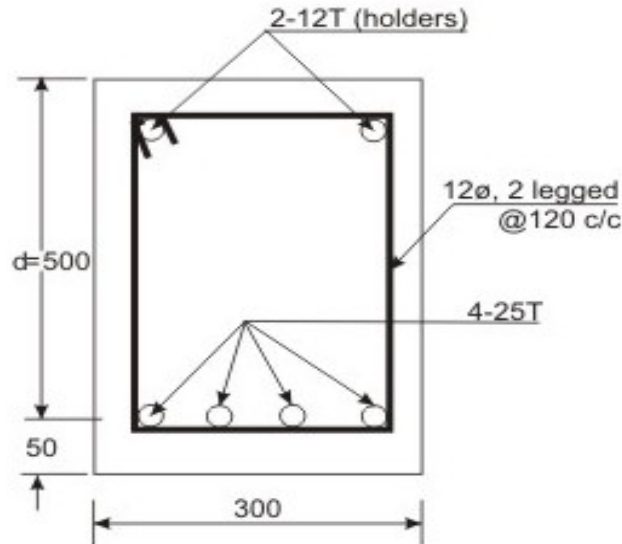

Fig. 6.14.9: Q. 1
Q.1: Check if shear reinforcement is needed for the beam shown in Fig. 6.14.9. If so, design the shear reinforcement using M 20 and mild steel (Fe 250). The tensile reinforcement is of Fe 415. Factored shear force = 300 kN.
Hence, both are possible, though 12 mm @ 120 mm c/c is desirable since the other spacing of 85 mm c/c is very close (Fig. 6.14.9).